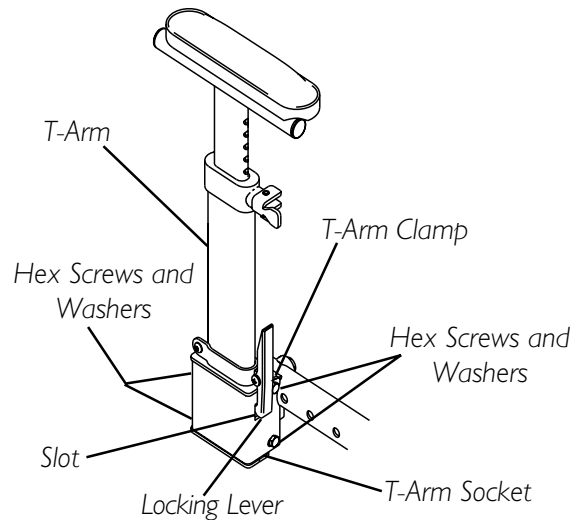

FIGURE 9 - ADJUSTING T-ARM SOCKETS
ADJUSTING T-ARM SOCKETS (FIGURE 9)
2. Secure the chest positioning strap to the back canes with the NEW/EXISTING hex screw and locknut as shown in FIGURE 9.